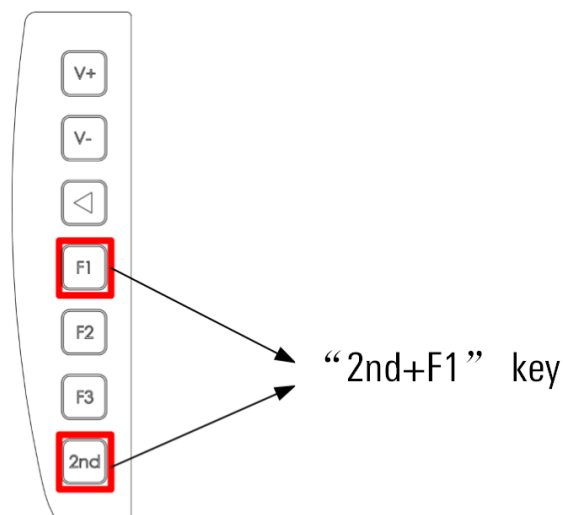

Figure 4-9 Teach pendant function buttons (left side of teach pendant)
Step2. Switch to drag teaching mode by pressing <2nd+F1> in the left control key of the teach pendant (as shown in Figure 4-9).